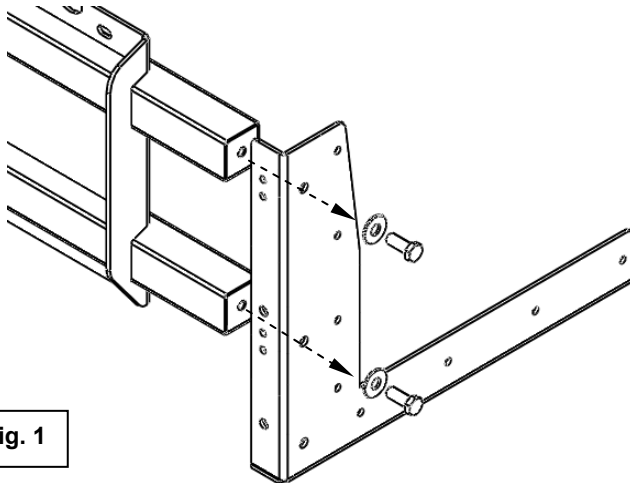

Fig. 1
1. Using (2) washers and (2) $\frac{1}{4}$ "-28 bolts, assemble one of the side mount brackets to the back bracket as shown in Fig. 1. The bolts should be hand tightened only at this point. Repeat procedure to attach the other side mount bracket to the other end of the back bracket.